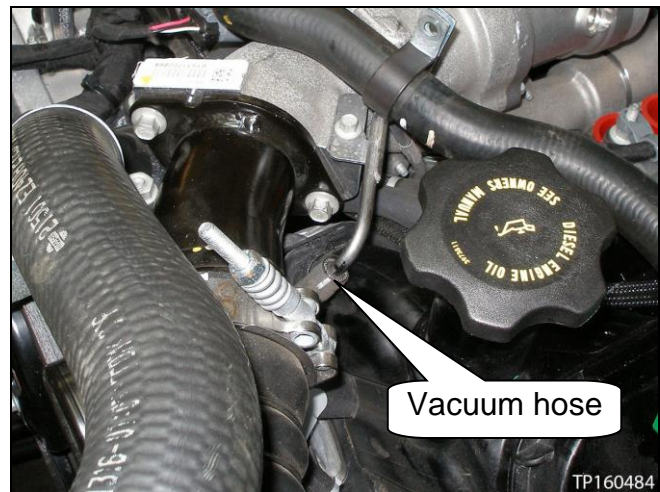

Figure 72
16. Connect the vacuum hose (see Figure 72).